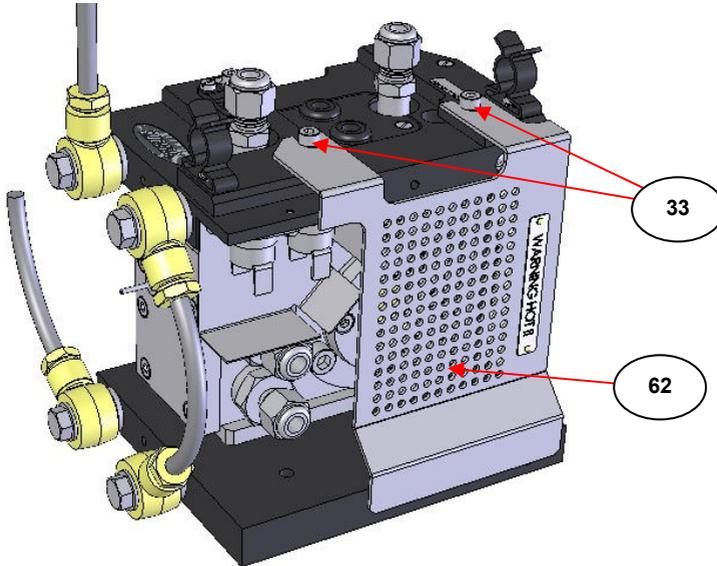

Fig 8. Heat Shield Fitted for Reflectance Mode of Operation
At this stage, before fitting the wedged window assembly (56), the new heat shield (62) can be fitted now over the plane window assembly (11) that is being retained on the HTHP Cell body (3). The two cap head fixing screws (33) for the heat shield (62) are tightened to hold it in position as shown for Fig 8.
side opposite to that shown for **Fig 8.**) This is achieved by unscrewing the six M6 x 10mm cap head fixing bolts (**30**) using the 5mm A/F hexagon key bit and torque wrench supplied. (Please refer to the HTHP Cell instruction manual 2I-05850-15, pages 38 to 44, for removal and fitting of window assemblies.)